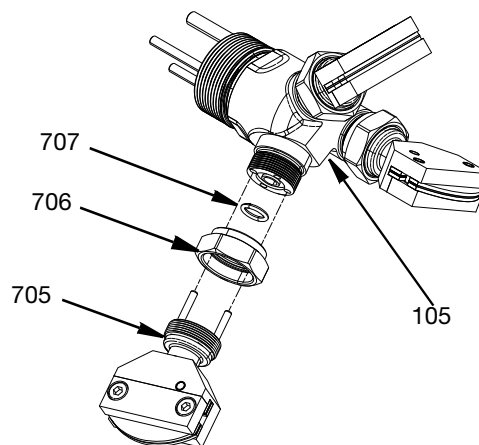

FIG. 4
1. Insert O-ring (707) into the 3 head adapter assembly (105).
2. Place small end of nut (706) against the 3 head adapter assembly (105) but do not tighten thread.
3. Align the pins of the nozzle assembly (705) and insert into the 3 head adapter assembly (105). Torque the nut (706) to 15 ft-lb (20.34 N•m) See FIG. 4.